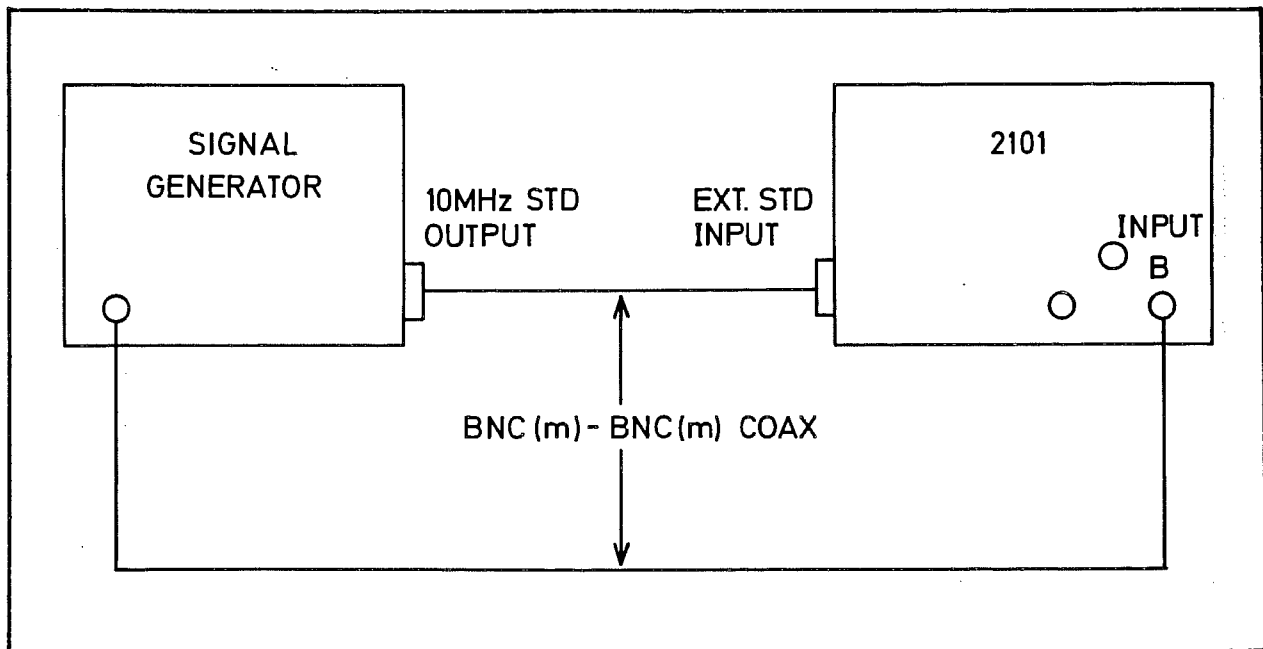
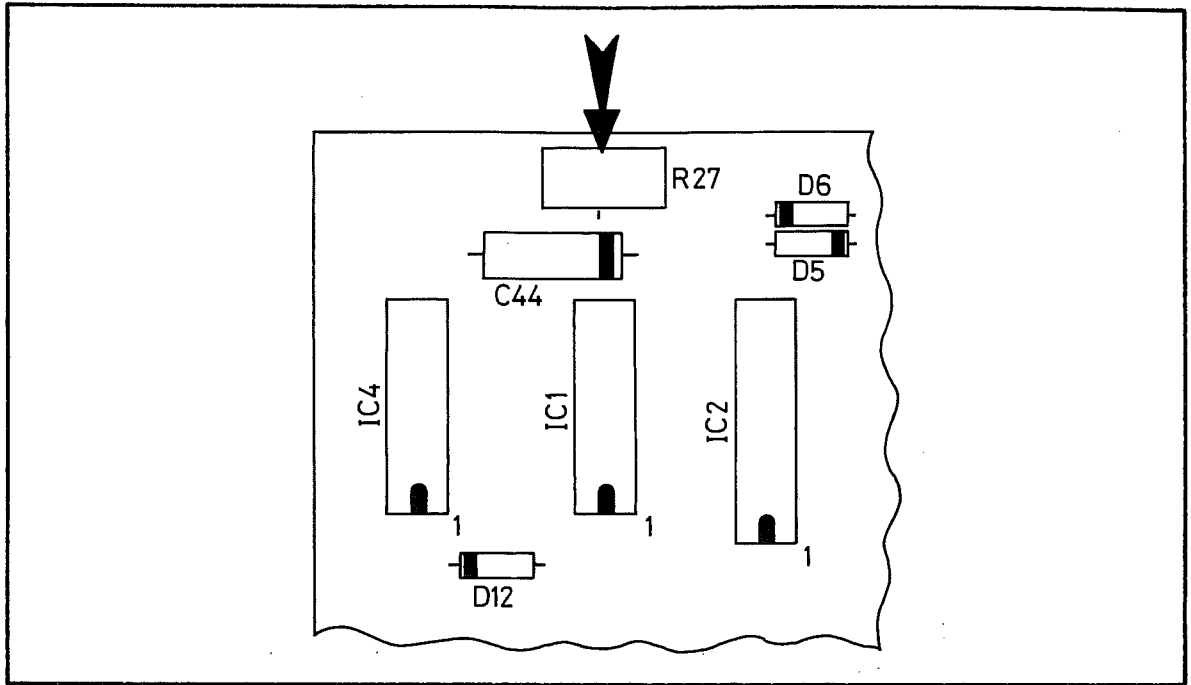

Fig. 7.6 Connections for Channel B Input System Adjustment
Fig. 7.7 Location of R27 on Prescaler Assembly
- 46 (1) Connect the equipment as shown in Fig. 7.6.
- (2) Set the signal generator to 1 GHz at a level of 5 mV RMS.
- (3) Set R27 on the prescaler assembly 19-3052 fully clockwise, see Fig. 7.7.
- (4) On the 2101 select FREQ B and verify that the EXT STD LED is lit.